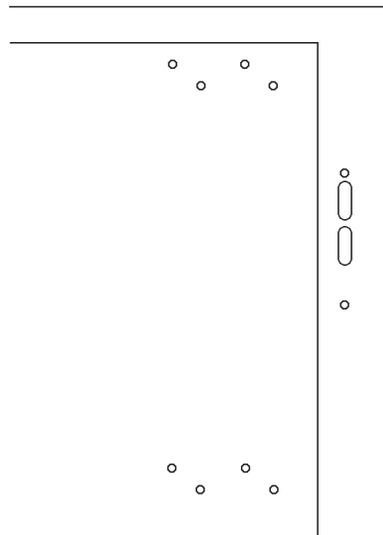

Figure 4
4. Assemble Circuit Breaker Mounting Plate with attached Breaker and Operator to cabinet on upper left set of provided mounting studs (see Figure 4) using provided 1/4" Lock Washers and 1/4-20 Hex Nuts.